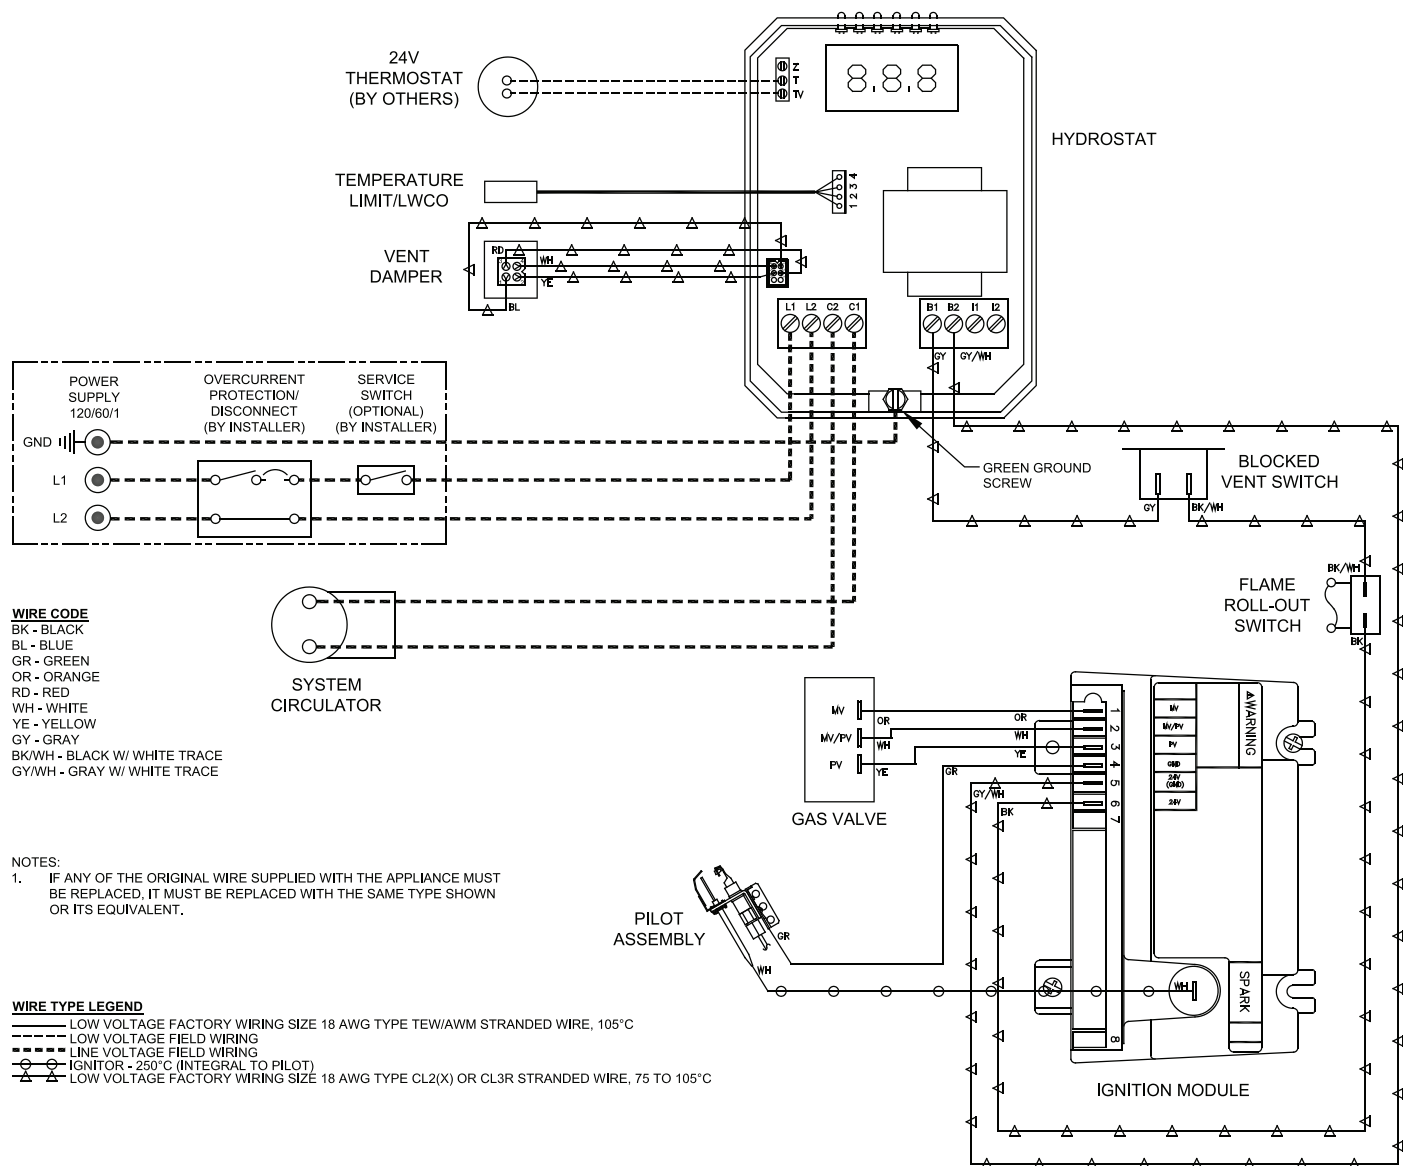

Figure 8: Wiring Connection Diagram
- C. Wire boiler.** Boiler is rated for 120 VAC, 60 hertz, less than 15 amperes. A separate electrical circuit must be run from the main electrical service with an over-current device/disconnect in the circuit. A service switch is recommended and may be required by some local jurisdictions. Connect to L1, L2 and green ground screw. See Figures 8 and 9.
Jumper Thermostat connections 'T' and 'TV' in HydroStat Control. See Figures 8 and 9. Allow burners to operate until shutdown by limit. REMOVE JUMPER.